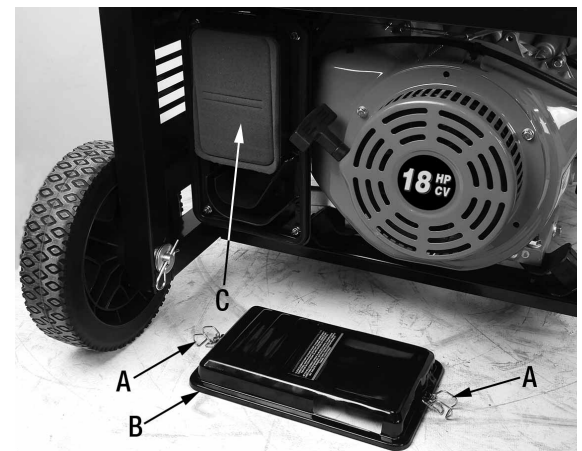

Figure 7
- 1) Snap the top and bottom clips (A) Fig.7 backwards and remove the air cleaner cover (B).
- 2) Remove the air cleaner filter (C), wash filter in kerosene, squeeze kerosene out, soak filter in engine oil and squeeze engine oil out.